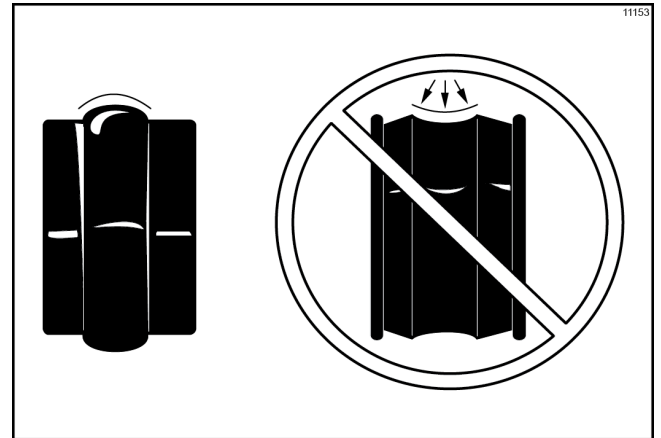

Figure-111
**Note:** To ensure that the mix does not leak out of the back of the freezing cylinder, the middle section of the boot seal should be convex or extend out from the seal. If the middle section of the boot seal is concave or extending into the middle of the seal, turn the seal inside out. (See Figure-111.)